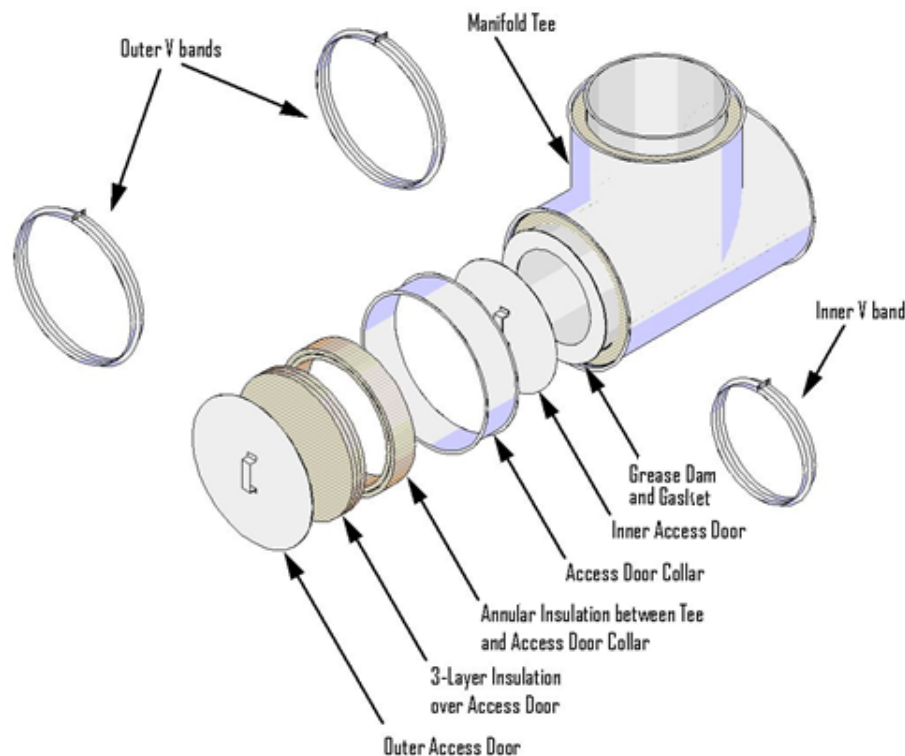

Figure 2. Access Door Assembly
- B. ACCESS DOOR – When required, use the duct manufacturer's manifold tee and access door (tee cap) assembly (see Figure 2). Apply a 1/4 in. continuous bead of sealant (Item 2A) to the inner flange of the tee on the side where access door is to be located. Center the supplied grease dam over the opening of the tee. Verify that grease dam is sealed to the tee flange by applying pressure. Remove excess sealant (Item 2A). Apply supplied Garlock Blue-Gard® 3000 gasket to grease dam with a 1/4-in. continuous bead of sealant (Item 2A) applied to the grease dam 1 in. from the outside edge. When the sealant (Item